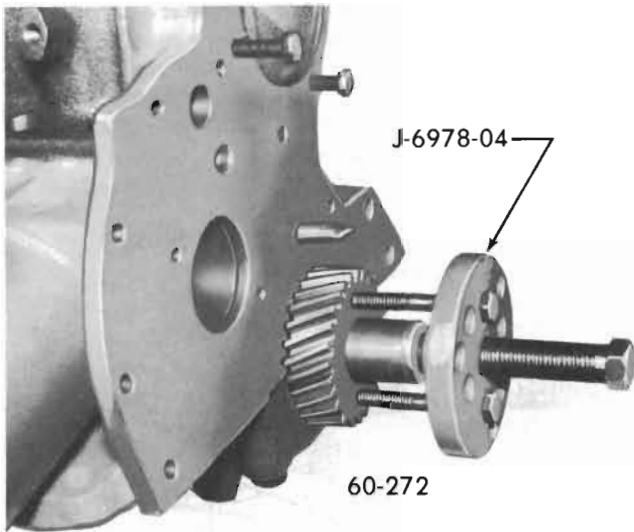
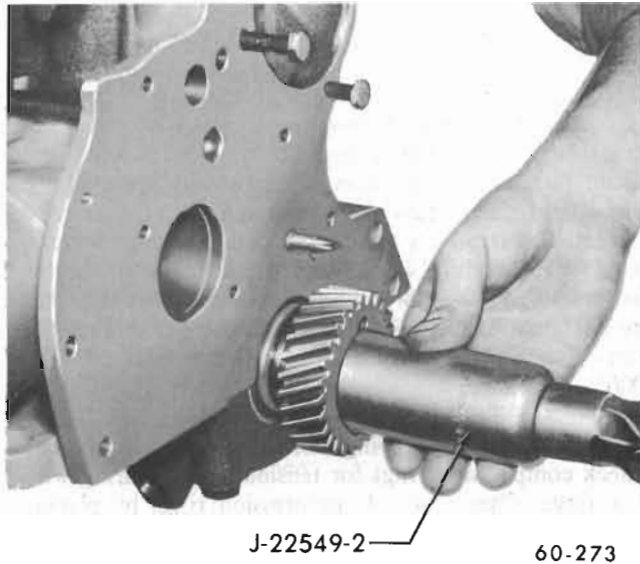

Figure 60-37--Removing Crankshaft Gear
Figure 60-38--Installing Crankshaft Gear
1. With camshaft removed, crankshaft gear may be removed using Tool J-6978. See Figure 60-37. To install crankshaft gear use Tools shown in Figure 60-38.